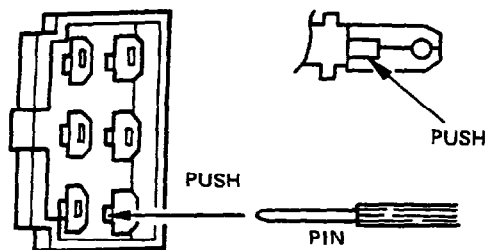

Fig. 10-13
(2) Separate the stator and rear cover. Separate the connector and wire. Push the terminal locks in the connector with a pin having a needle-like sharp point, and remove the terminals, (See Fig. 10-13.)	It is not necessary to separate the stator and rear cover except when replacing the stator, rear cover, or diode stack.